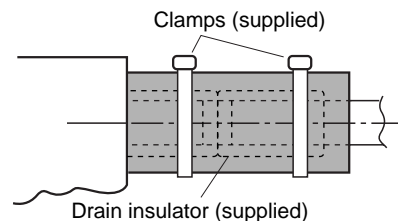

Fig. 3-12
- (2) After checking the drainage, wrap the supplied packing and drain pipe insulator around the pipe, then secure it with the supplied clamps. (Fig. 3-12)